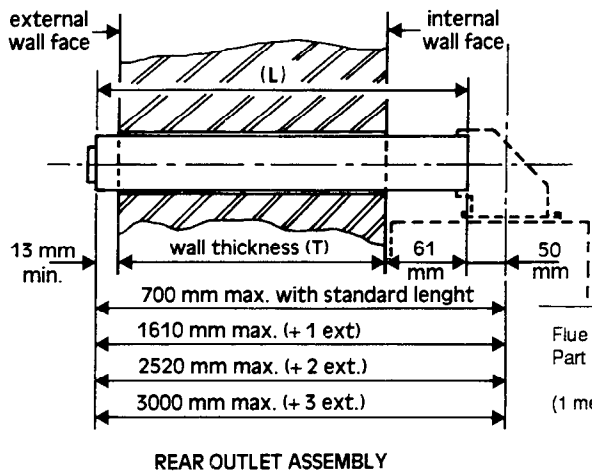

Fig. 2
1) The standard flue assembly supplied with the boiler is 100 mm (4 in) dia pipe, can be directed to the rear or to the left or right and can be extended to a maximum length of 3 m, or 1,6 metres horizontally using the available 90° bend (see sections 1.4.1, 1.4.2 and 1.4.3 figures 2, 3, 3a, 3b, 3c).
See figs. 2 and 3 for details of number of extensions required.